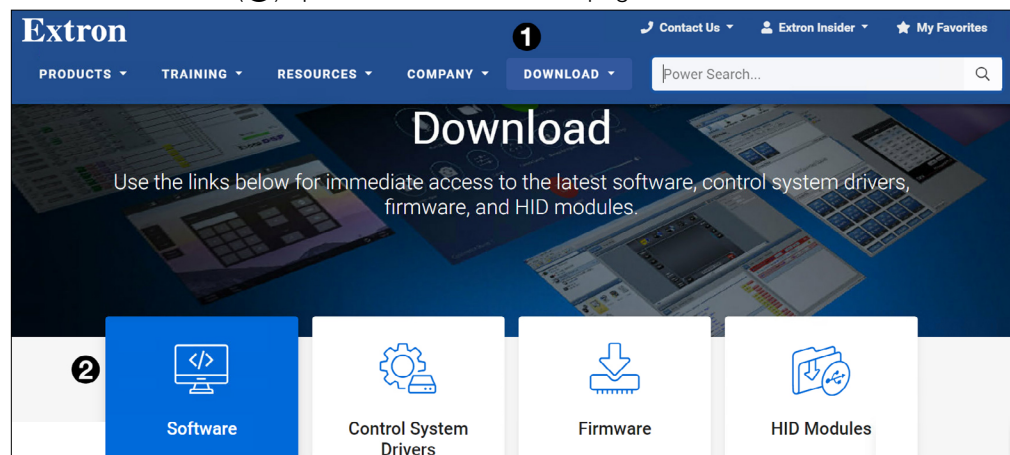

Figure 17. Software Downloads from the Extron Website
1. Select the **Download** tab (see figure 17, **1**).